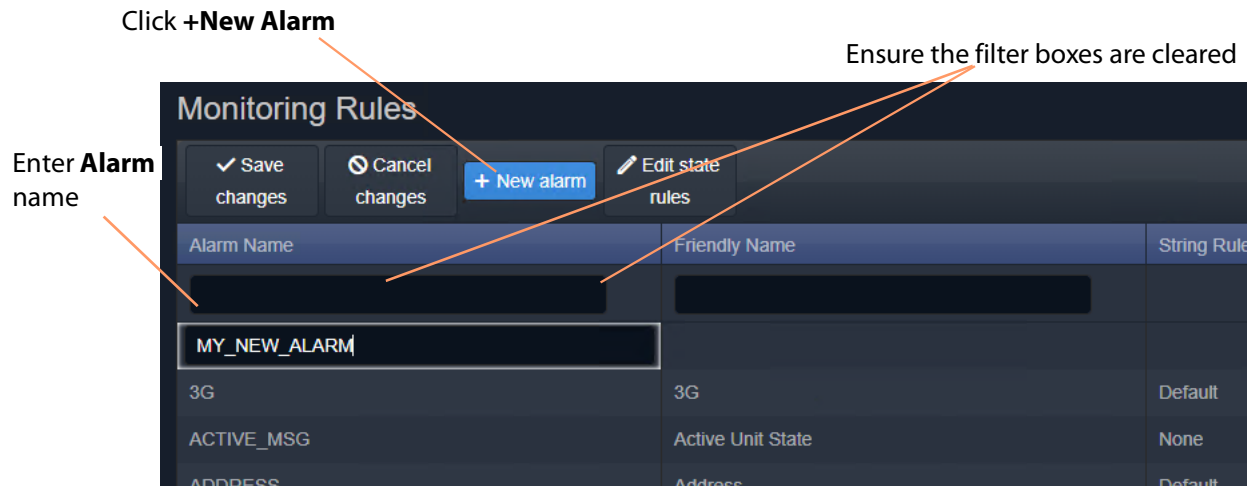

Figure 71: Enter Alarm Name
- 2 Begin to enter the new **Alarm's** name and select a name from the drop-down list (or enter a new name, if required). (This is the message Header that the new Monitoring rule will apply to.) See Figure 71.